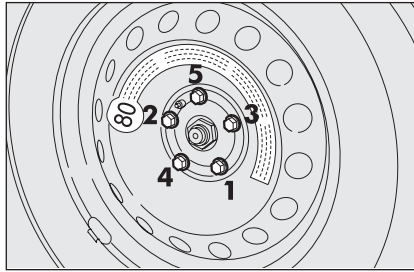

fig. 9
- Use the wrench provided to fasten the bolts completely in a criss-cross fashion according to the sequence shown in **fig. 9**.
- lower the car and remove the jack, then, using the wrench provided tighten the bolts according to the sequence previously shown for the space-saver spare wheel **fig. 9**.